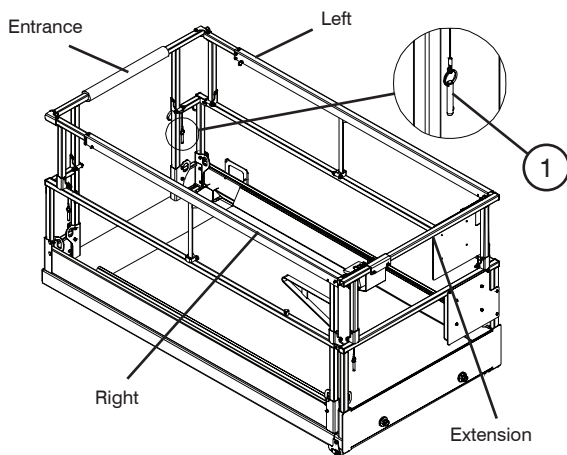

Figure 2-17a. Folding Guardrail System
6. Fold guardrails down in the following order: right-hand side, left-hand side, entrance and extension (refer to Figure 2-17a).